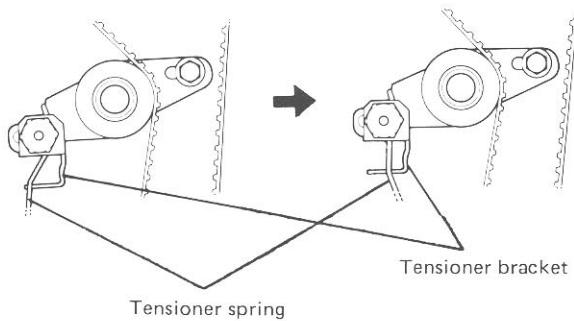

Fig. 3-141
- 6) After putting the belt, hook the spring on the bracket as shown in Fig. 3-141 so that the timing belt can be tensed to specified range by the tensioner spring force.